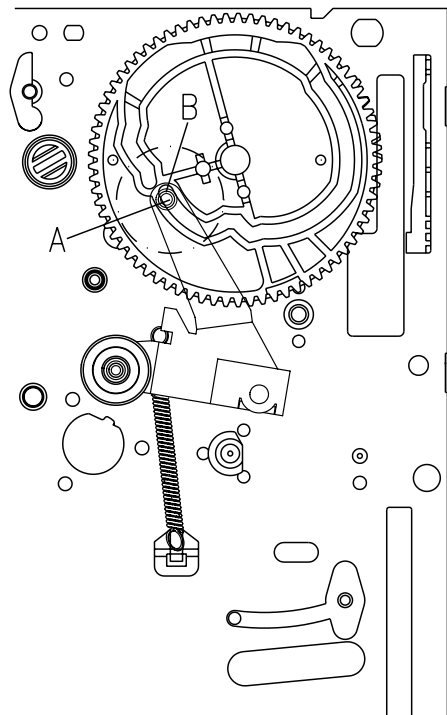

Fig.4-4 DATUM POSITION OF PINCH LEVER TOTAL ASS'Y & CAM GEAR
d. Make sure that boss "A" of the PINCH LEVER TOTAL ASSEMBLY is positioned at point "B" of the CAM GEAR, as shown in Fig.4-4.